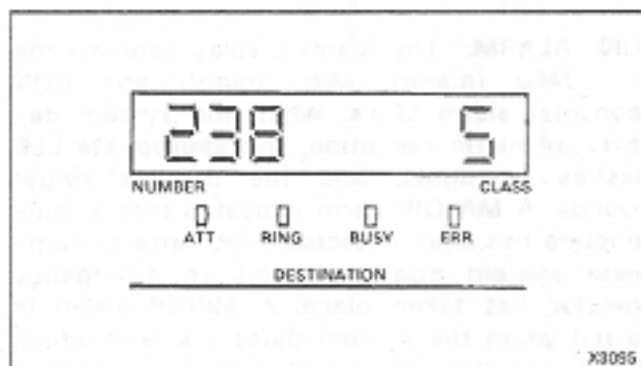

Fig. 4-5 Destination Display
4.33 DESTINATION: The DESTINATION display (see Fig. 4-5) holds eight 7-segment and four LED displays which provide the following information on all calls made from the console: